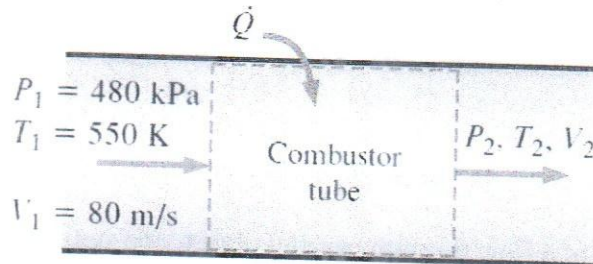

Fig. 3
4. A combustion chamber consists of tubular combustors of 15-cm diameter as shown in Figure 3. Fuel with a heating value of 42,000 kJ/kg is injected into the air and is burned with an air–fuel mass ratio of 40. Approximating combustion as a heat transfer process to air, determine the temperature, pressure, velocity, and Mach number at the exit of the combustion chamber. (CO2) (25)